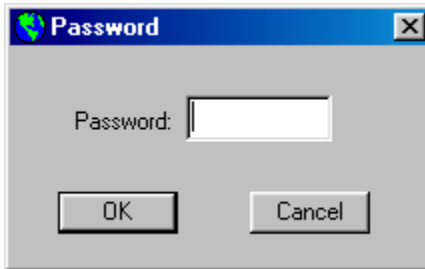

Figure 14 – Password Dialog Box
3. At the Password dialog box, enter the password and select [OK]. See Figures 14 and 15.
The default password is null data, no password, as shown in Figure 14. Select [OK] to enter Alignment mode. You must be in the Alignment mode to set or change the password. See Section 7 to set or change the password.
It is recommended to keep the default “tune frequencies” as shown in Figure 14. However, the frequencies can be changed should you desire to do so. The RX and TX frequency fields can be edited as described in sections 5.5.1.1 and 5.5.1.2.